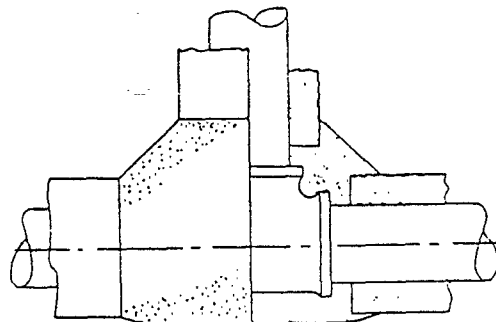
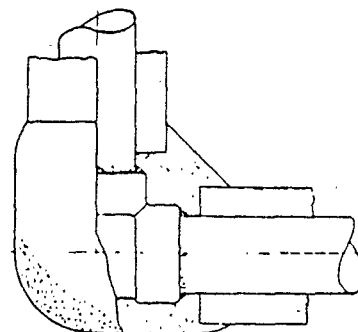

FIGURE 6
FIGURE 7
7.1 Welded fittings and valves 2 inches and smaller shall be insulated with Insulation Cement, Code 502, to a thickness equal to the adjacent pipe insulation. See Figure 7. Screwed fittings and valves shall also be insulated with Code 502 Insulating Cement as shown in Figure 6.